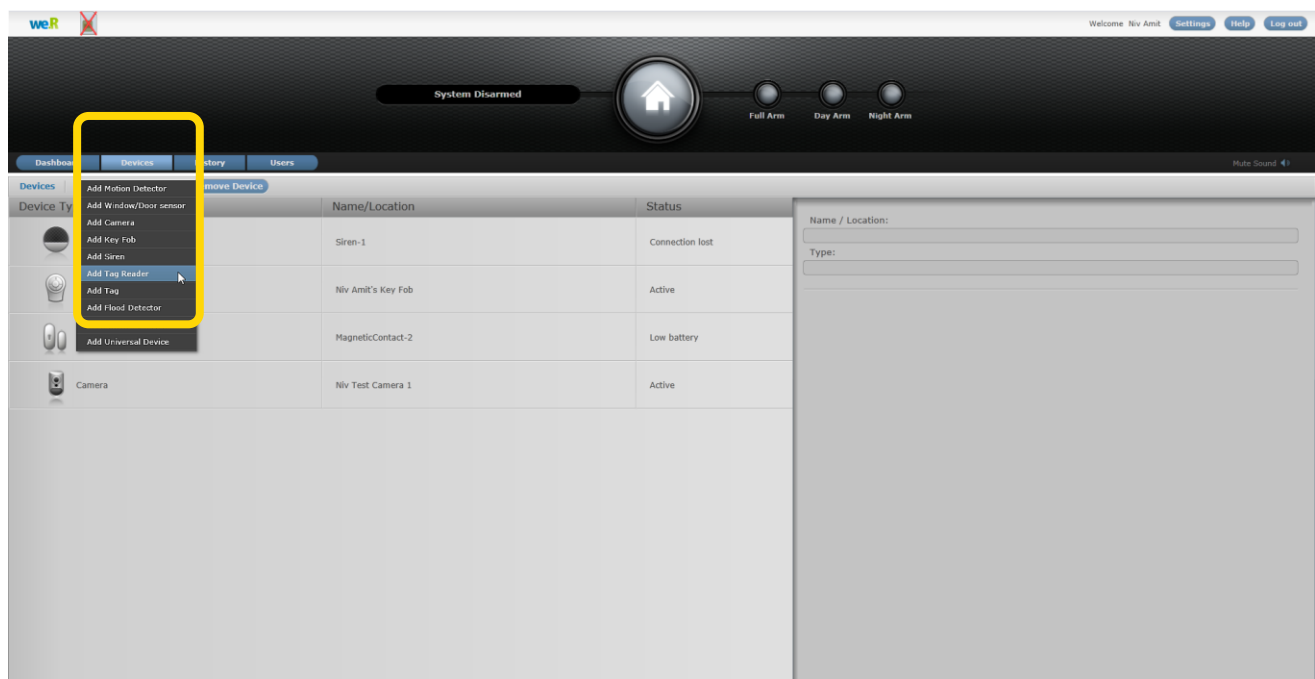

Figure 104: Add Tag Reader Device Utilizing Web Application
13. Click over the **Add Tag Reader** option of the menu as illustrated in Figure 104 above.